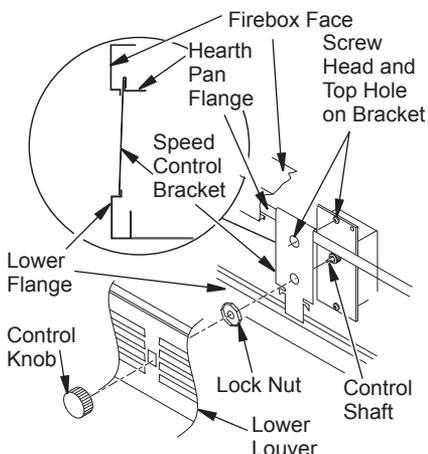

Figure 14 - Attaching Speed Control to Firebox with Panel Louvers
5. Position speed control bracket over flange on hearth pan by sliding it up between firebox face and hearth pan flange, then down until seated onto lower flange of louver opening (see Figure 14, page 15).
8. Place louver panel, louvers pointing up, back into framed opening. Align control shaft with rectangular opening by sliding control bracket along flange (see Figure 14).
10. Place control knob, provided, onto control shaft (see Figure 14).